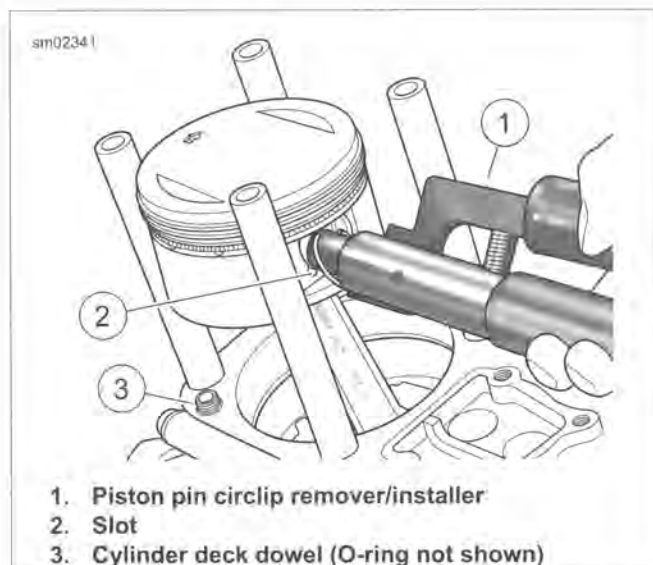

Figure 3-68. Pin Circlip Installation
- See Figure 3-68. Insert the tool (1) into the piston pin bore until claw is aligned with slot (2) in piston.
- See Figure 3-68. Apply a very thin film of clean engine oil to **new** O-rings for both lower cylinder deck dowels. Install and verify that O-ring is properly seated in groove.